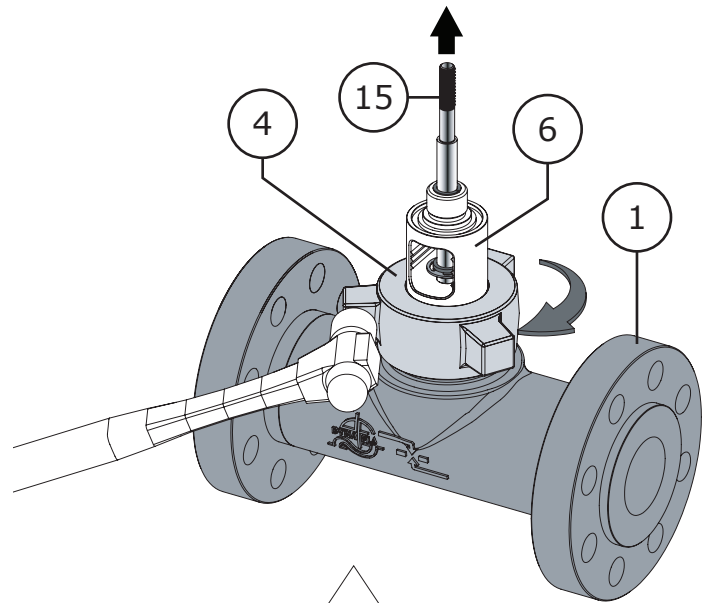

Figure 39 Hammer Nut Tightening
- 12 Hold the bonnet assembly in place during tightening so that it does not twist out of alignment. Tighten/torque the hammer nut (Key 4) to 200 lbs-ft. When the hammer nut is properly tightened the packing inside the bonnet will have reached the proper load, refer to Figure 39.